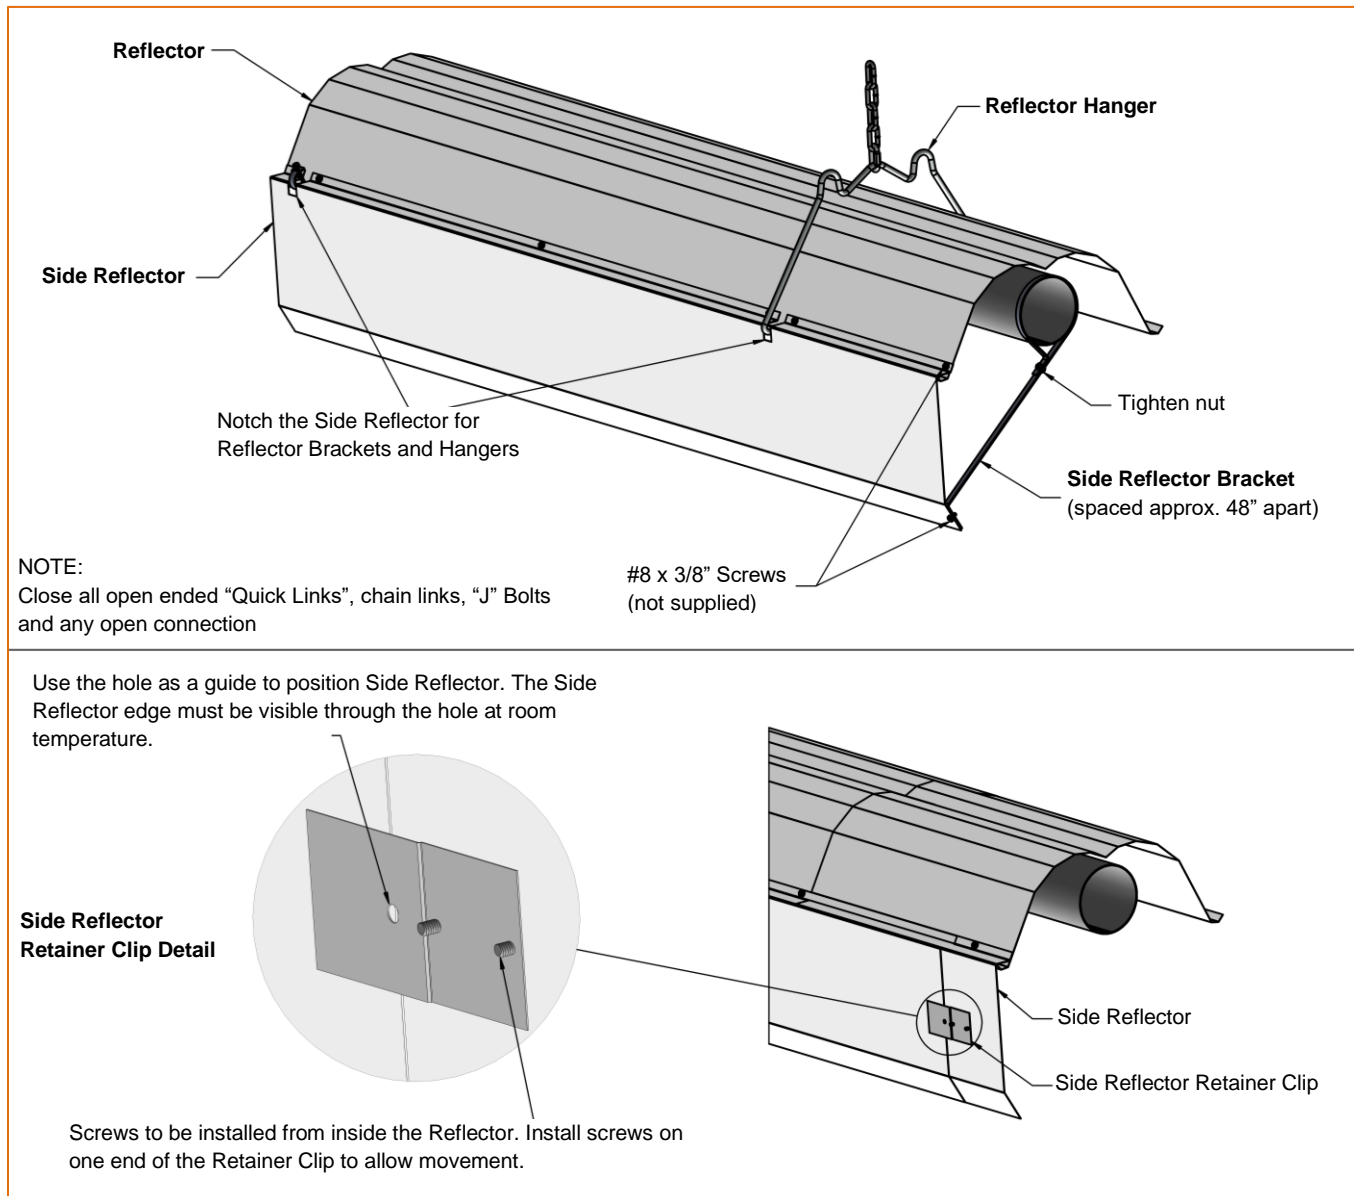

Figure 21: Bottom Shield Installation
- Bottom shields need not overlap. Each 5' section is held with two support brackets (see Figure 21).